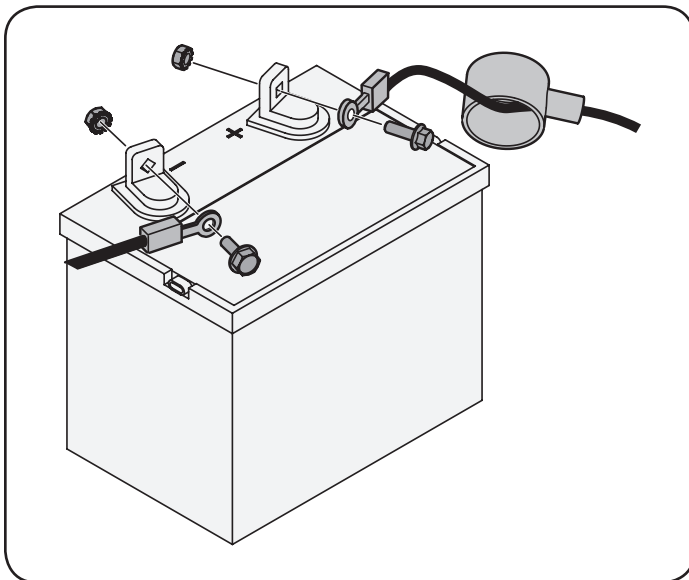

Figure 8
1. Remove the plastic cover, if present, from the positive battery terminal and attach the red cable to the positive battery terminal (+) with the bolt and hex nut. See Figure 8.
2. Remove the plastic cover, if present, from the negative battery terminal and attach the black cable to the negative battery terminal (-) with the bolt and hex nut. See Figure 8.